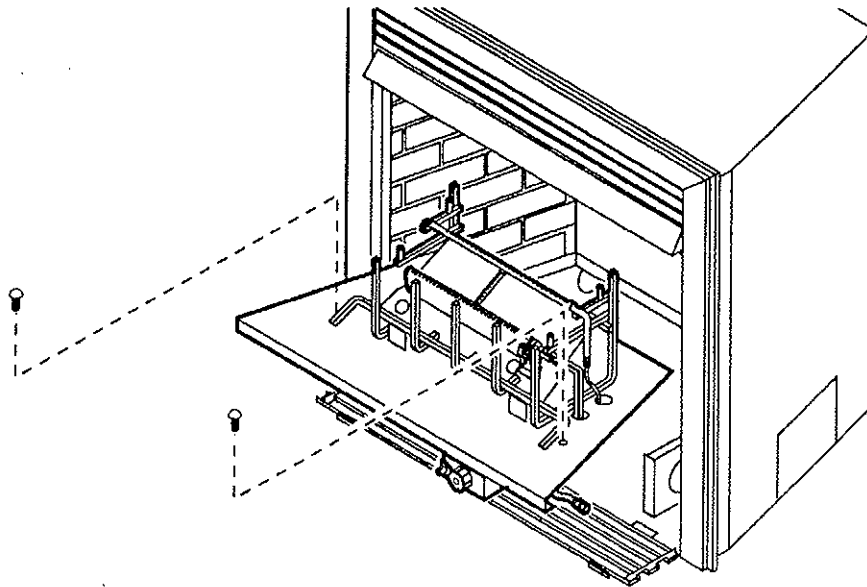

FIGURE 6.
- To remove the grate and base assembly, take out two screws as shown in FIGURE 6.